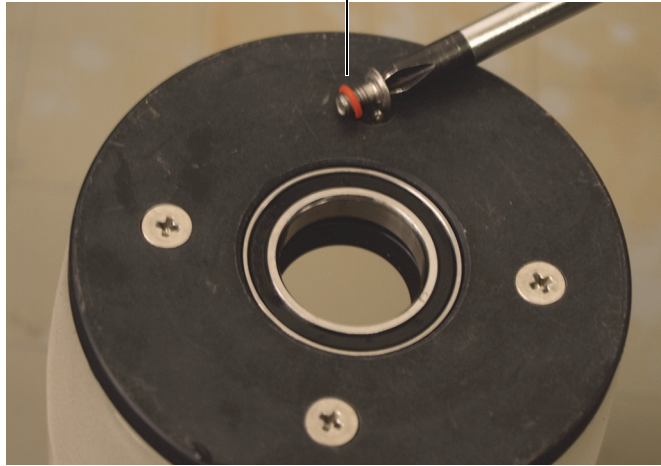

Figure 6-14 Removing the acoustic wheel flange's external retaining screws
1. Remove the four external retaining screws from the plain flange of the acoustic wheel, which is opposite to the probe-cable side flange (Figure 6-14 on page 93).